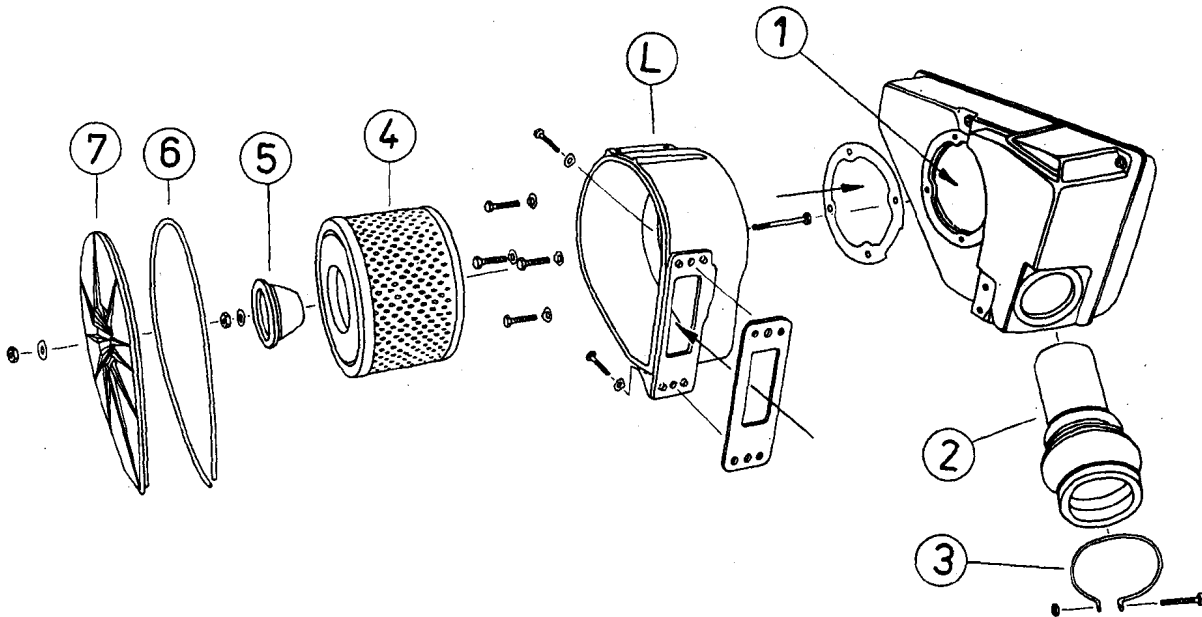

Fig. 187. Intake silencer and air filter
After leaving the induction pipe, the air flows back into the frame member and enters the air filter casing (L) tightly screwed to the frame tube, see Fig. 187.